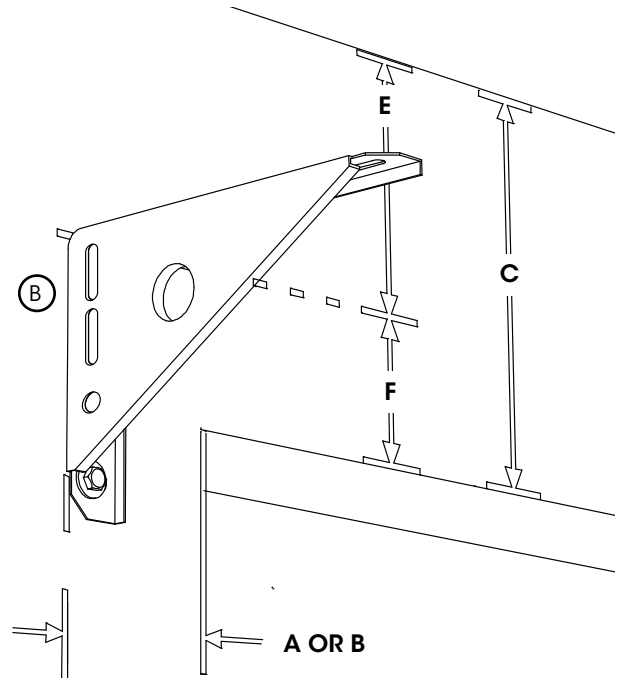

Fig: 2.1.1
- Use above diagram and table **Fig 2.1.1** for head and sideroom clearances.